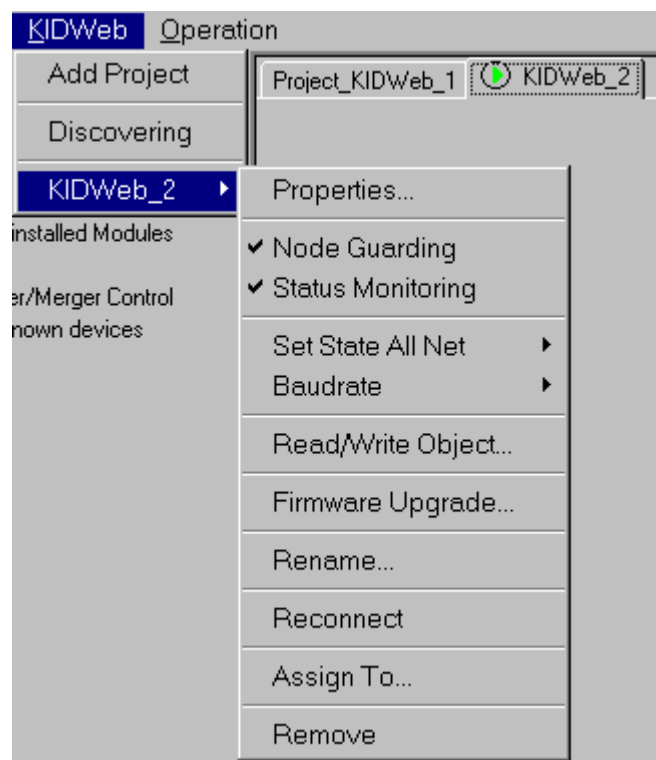

Fig. 5.6.3
- Approach **the physical KID Web's** sub-menu item to open the drop-down menu box - Fig. 5.6.3.